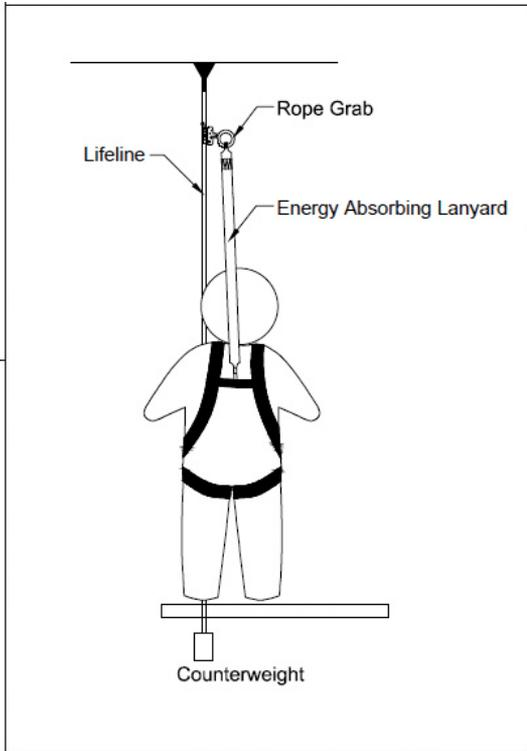

Figure 2 – Fall Arrest
1. **PURPOSE:** The HiiGard rope grabs are intended to be used as part of a personal fall arrest system. Applications for these rope grabs include most activities where there exists the need for fall arrest or restraint (on sloped surfaces) Figures 2 and 3 are examples of these applications. This rope grab is a part of a complete fall arrest system, including approved lifeline (only lifelines listed in these instructions can be used), integrally attached shock absorbing lanyard (supplied with HiiGard – only these shock absorbing lanyards can be used) and full body harness. Maximum permissible free fall is 1.8 m (6 feet). The rope grab can ONLY be used with the supplied integrally attached shock absorbing lanyard.